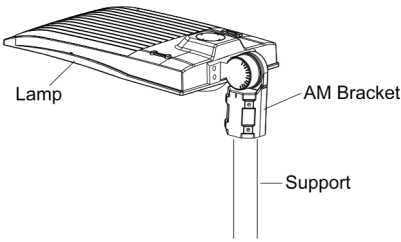

Figure 2
- Step 2: Place the bracket into the pole and lock the four bolts.(Figure 2)